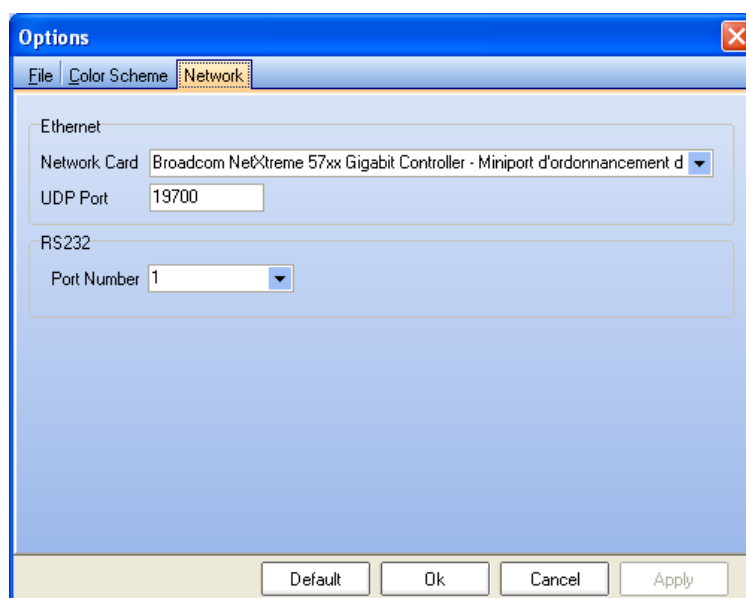

Figure 8: Network options page
- Next step is to set the network option. Simply click F12 or menu “Tools->Options”. A new pop window will appear directly on the network options page (Figure 8). Please check that the network card is one to be used.